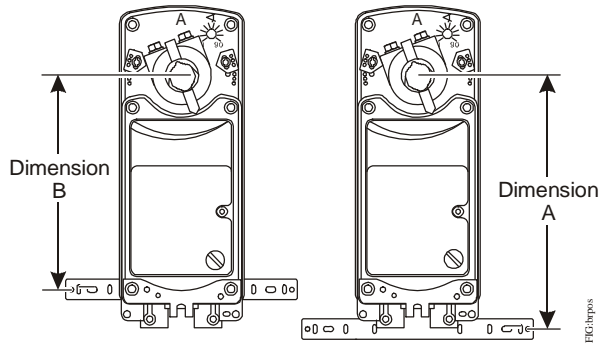

Figure 5: Positioning the Anti-Rotation Bracket
- See the dimensions in Figure 5 and Table 2 to ensure the correct positioning of the anti-rotation bracket.
- Drill mounting holes in the damper frame or duct using the anti-rotation bracket as a guide (based on the measurements obtained in Table 2 and Figure 5).